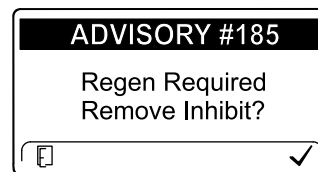

Figure 38
**Note:** If you set the InfoCenter to inhibit regeneration, the InfoCenter displays ADVISORY #185 (Figure 38) every 15 minutes while the engine requests a reset regeneration.